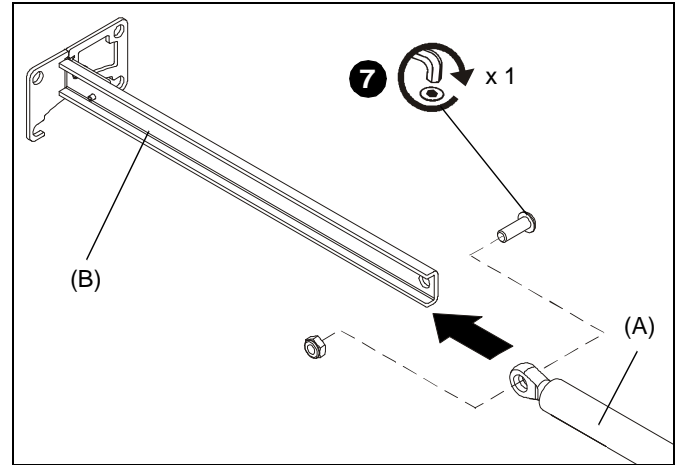

Figure 11
- Fasten gas spring mount for stand (B) to gas spring assembly (A) using the button head screw and nut removed in Step 1. (See Figure 11)